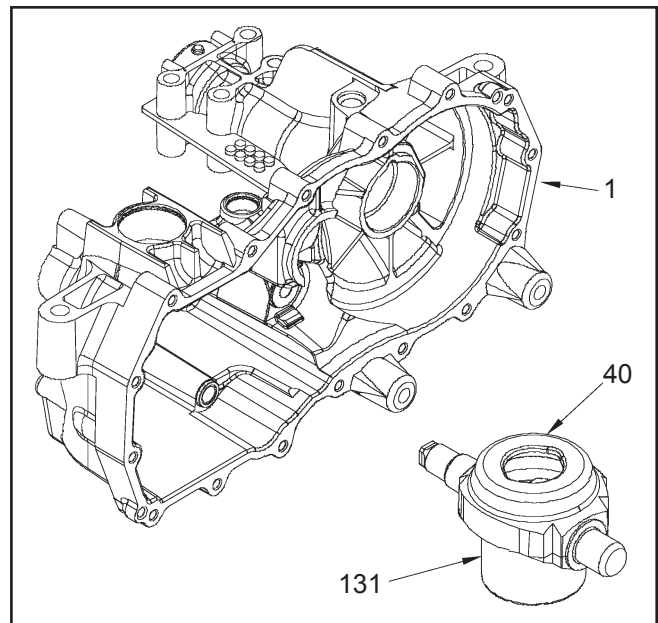

Figure 10.
7. **(See Figure 10)** Remove the swashplate (40) and pump cylinder block (131) as one assembly. NOTE: Removal will be aided by applying a small amount of pressure on the trunnion mounted swashplate towards the center section. Also note that the control arm (44, page 39) may be loosely assembled at this point to assist in swashplate removal. While gently removing the swashplate and block assembly, keep the block face flush with the center section to minimize damage to the running surface.
12. (See Figure 10) Place the pump block assembly (131), pistons down, on top of the thrust bearing (60) in the swashplate (40).